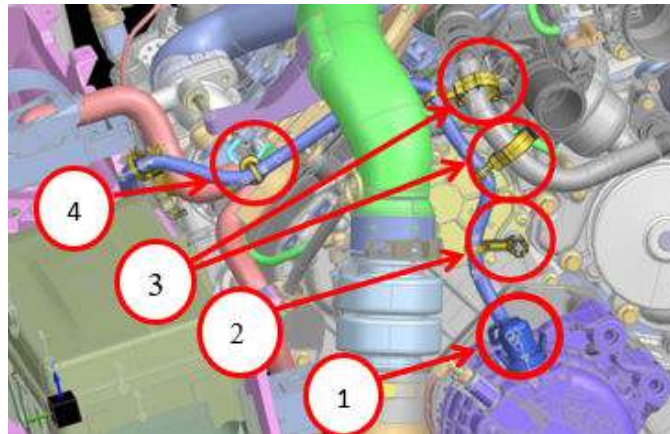

Fig. 1
2. Disconnect battery positive cable from generator Fig. 1.
3. Remove stud clip, two C-Clips and fir tree clip from harness (four clips) Fig. 1.